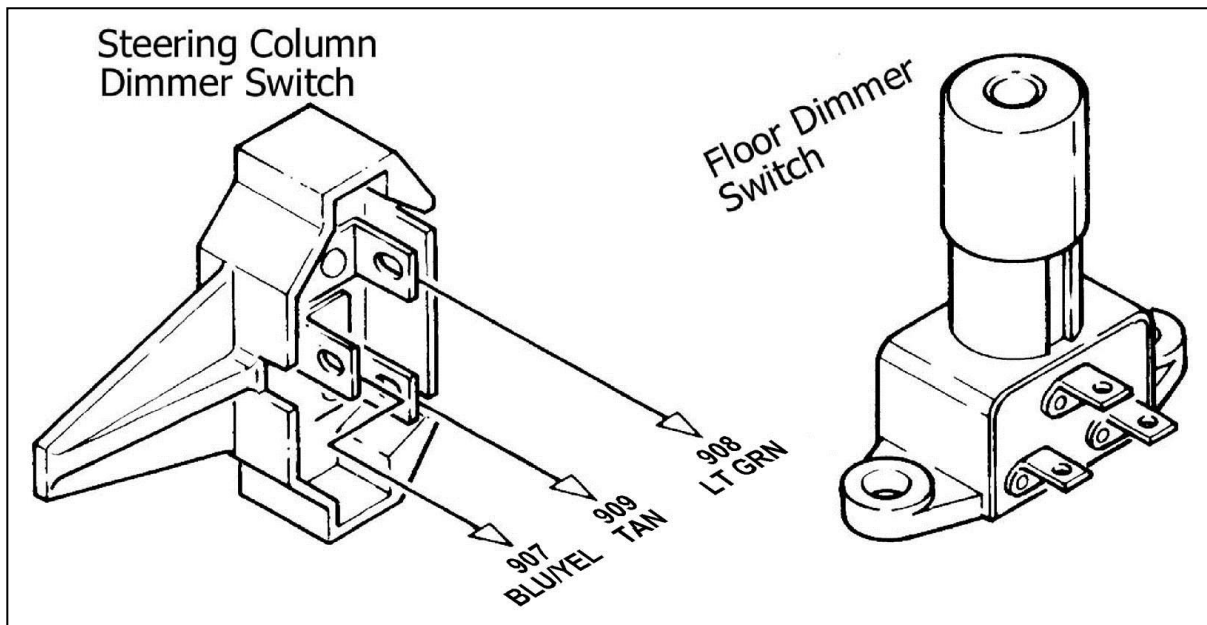

Figure 8.4 Dimmer Switches (Push Button Style – Painless Part #80150)
- 8.3.5** Connect the DIMMER SWITCH SECTION cable to the floor mounted dimmer switch. If you have a column mounted dimmer switch, the plug is the same as the floor mount version. See **Figure 8-4**.